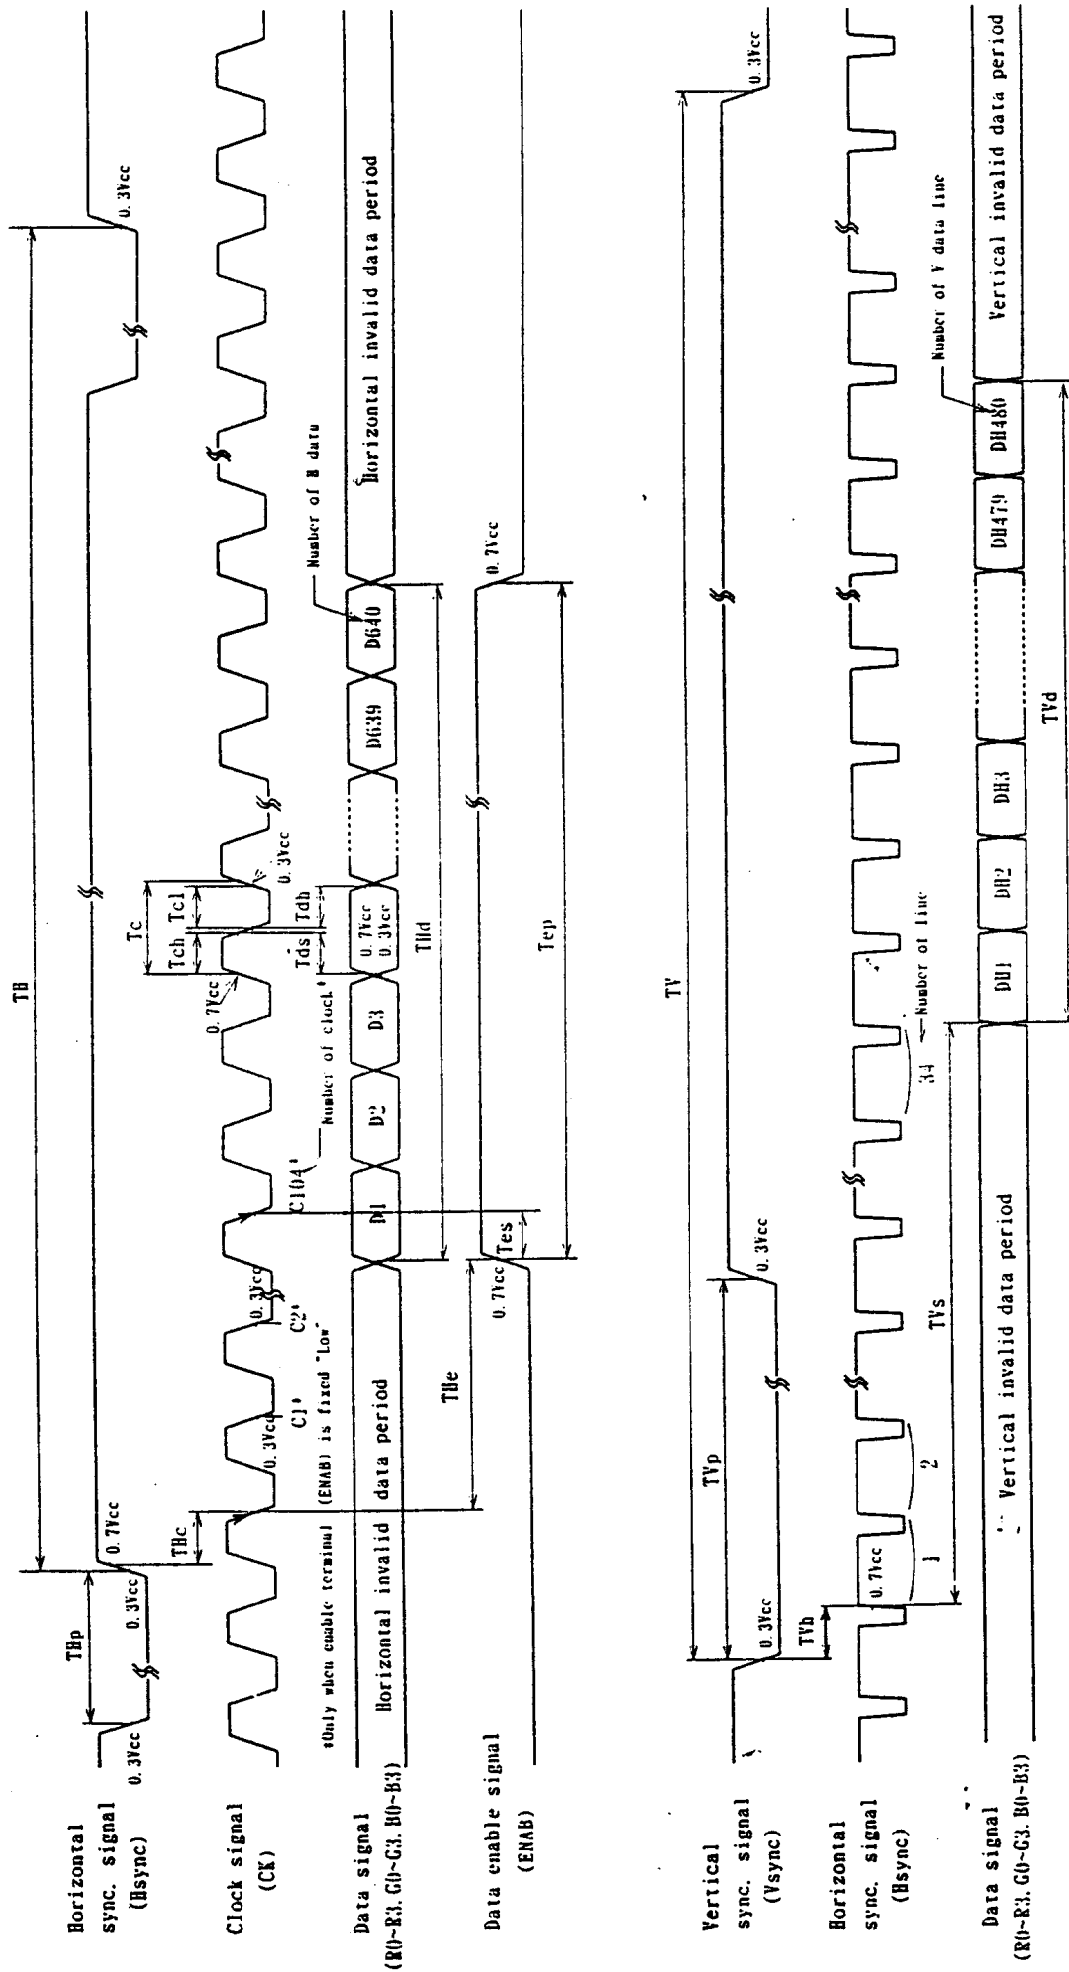

Fig. 2-① Input signal waveforms (480-line mode)
The timing diagrams of the input signals are shown in Fig. 2-①~③.
Note) When ENAB is fixed "Low", the display starts from the data of C104(clock) as shown in Fig.2-①~③. Be careful that the module do not work when ENAB is fixed "High".